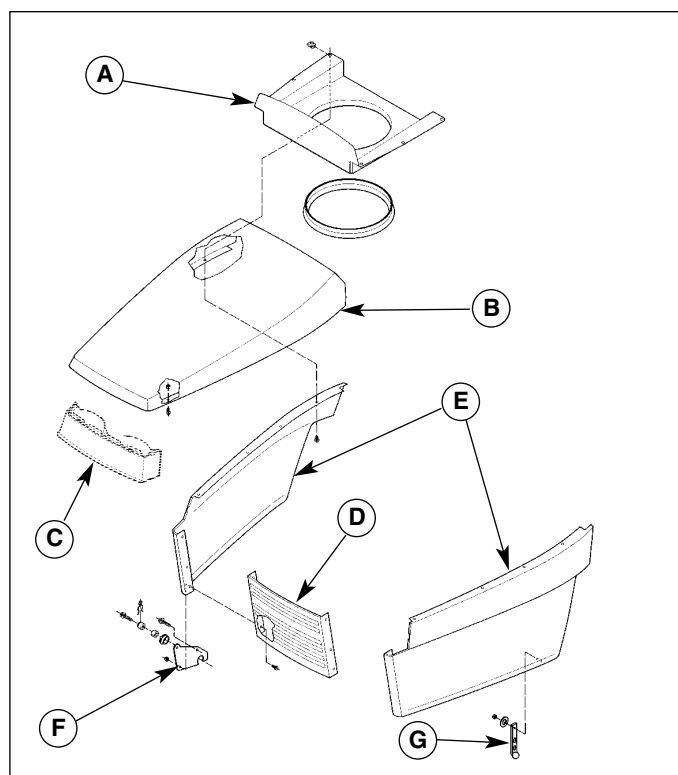

Figure D-2. Hood Assembly Parts
1. Unlatch the rubber hood strap (G, Figure D-2) on each side of the hood and raise the hood to its upright position.